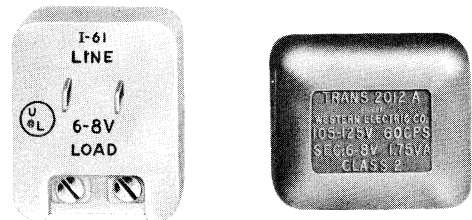

Fig. 4—2012A Transformer
- 2.04 The 2012A or 2012C (Fig. 4 or 6) transformer supplies power for telephone sets with dial night light feature and is available in Light Olive Gray (-49) or Ivory (-50).
*Do not use 2012A or 2012C transformer to power 3-type (MD) speakerphone systems or TOUCH-A-MATIC® 16 telephone sets.*